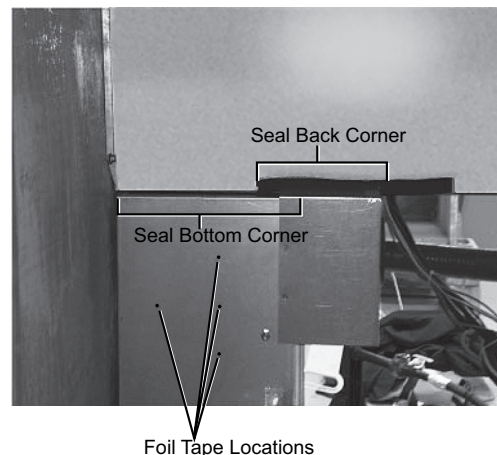

Fig. 6 — Seal Strip and Foil Tape Location
6. Add seal strip to the rear bottom corner of the control panel as shown in Fig. 6. Foil tape open screw holes on the back of the single point box as shown in Fig. 6. Different single point boxes will have different screw holes open.